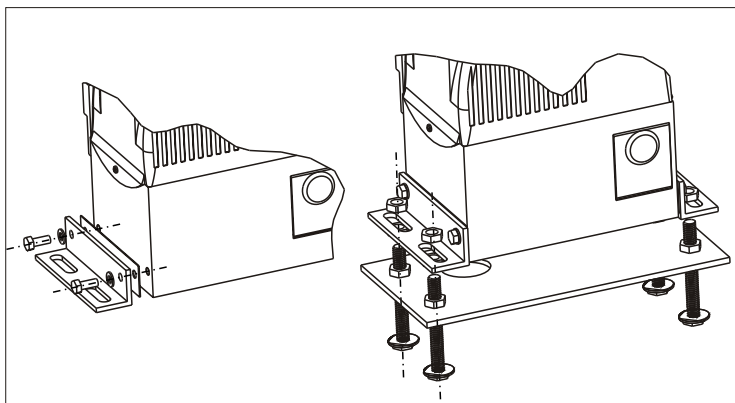
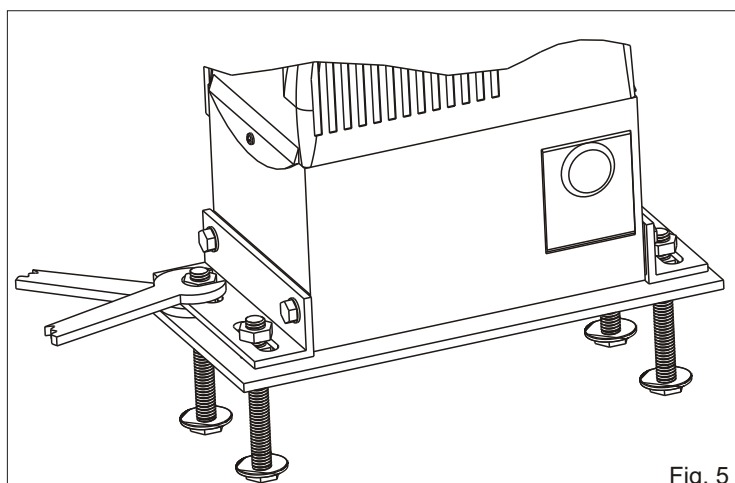

Fig. 4
Fig. 5
4.1. Fix the side fixing angulars to the motor-reducer with the provided screws (Fig. 4)
4.2. Fix the motor-reducer to the foundation plate adjusting the side position and its height (Fig. 4 - Fig. 5) considering the mentioned measurements in Fig. 2.